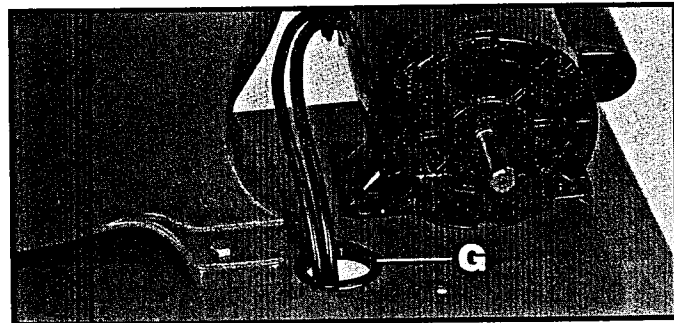

Fig. 6
Place grommet (G) in large hole in top shelf as shown in Fig. 6. **IMPORTANT:** If you are using the 62-158, 3/4 H.P. motor, insert switch cord and power cord through hole as shown in Fig. 6.